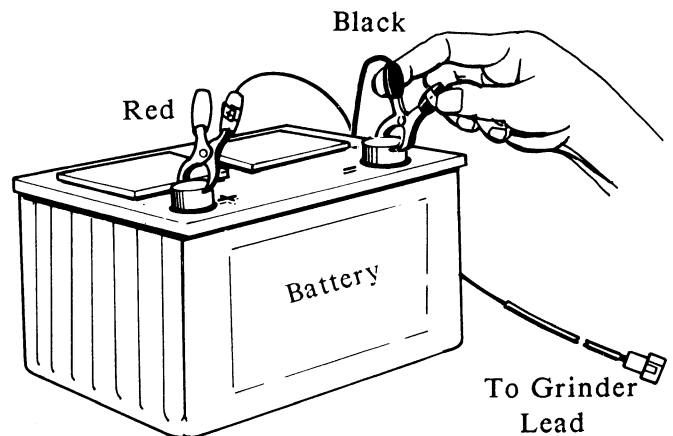

FIGURE 1A
3. The LTADS sharpener can also be powered directly by a 12 volt DC storage battery. Use the provided socketed pigtail with the clips as before, but attach the clips to the terminals of a car or truck battery (See **Figure 1A**). Plug the grinder lead into the pigtail socket. Check the motor shaft rotation. Rotation of the shaft should be counter-clockwise when viewed from the end of the motor shaft. If direction is wrong, reverse the two clips on the battery terminals.